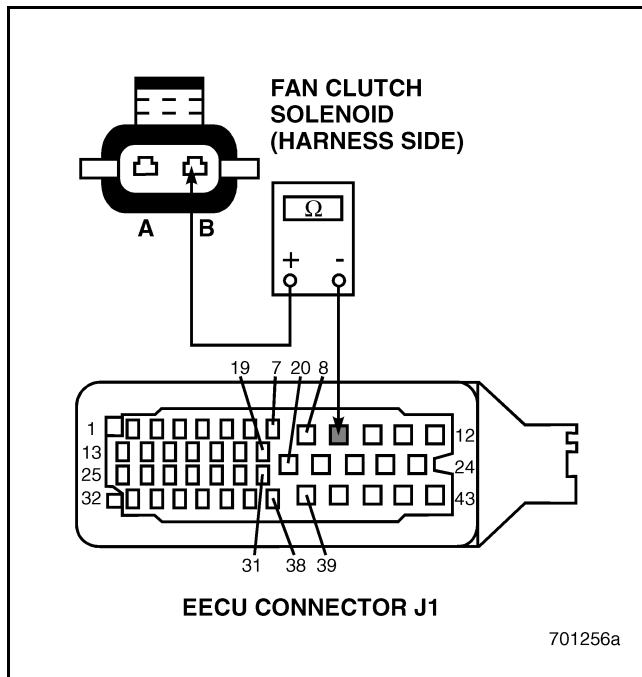

Figure 457
4. Check for continuity between pin B of the Fan Clutch Solenoid harness connector and EECU connector J1 pin 9 (see Figure 457).